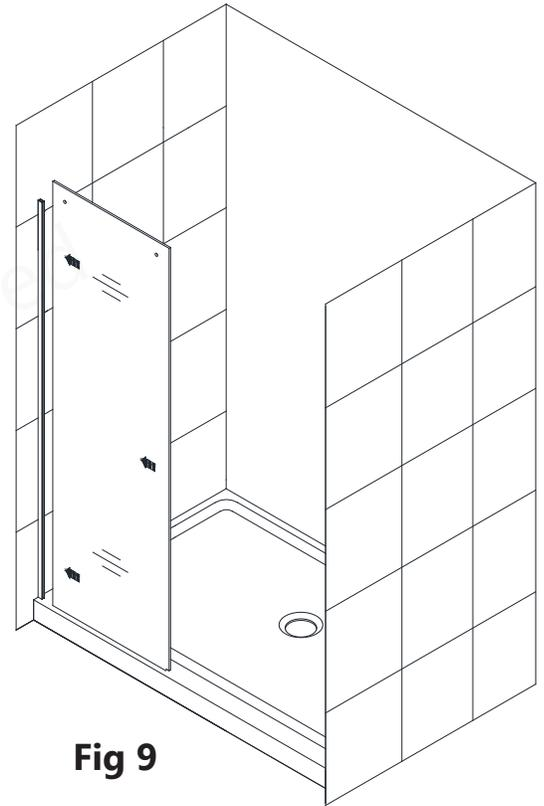

Fig 9
9. Dry fit the **Stationary Panel Glass (#02)** into the installed **U-Channel (For Panel Glass) (#01)**. **Do not use silicone at this time.** (Fig 9)